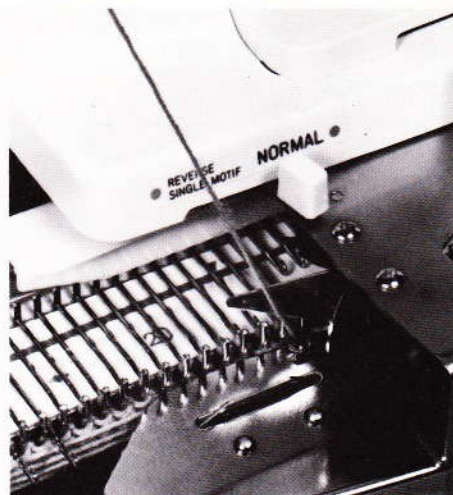

Fig. 134
- Push the carriage from right to left. The weaving yarn B will automatically enter the weaving guide (fig. 134).